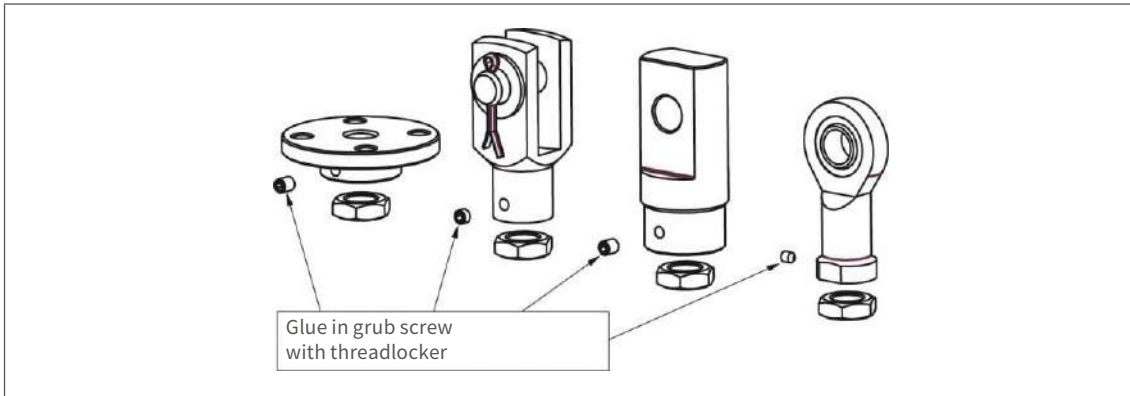

Fig. 9: Fix parts such as Fixing flange, Forked end, Pivot bearing end, Rod end and ball joint heads after setting the position.
3. Fit the screws for sizes 50, 100 and 150 of the ZE and Z series to the elongated holes using washers (e.g. to DIN 1441). Fit the spindle head (see Fig. 9), fix the locking screws with threadlocker (e.g. Loctite), fit the lock nut (up to size 100).